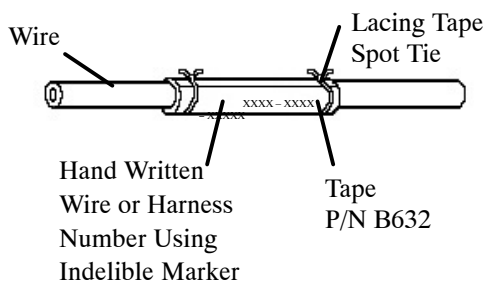

Figure 29. Tape Wire Identification Marker
92. Wires and harnesses may be marked by using tape and an indelible marker following the procedure listed below (Figure 29):